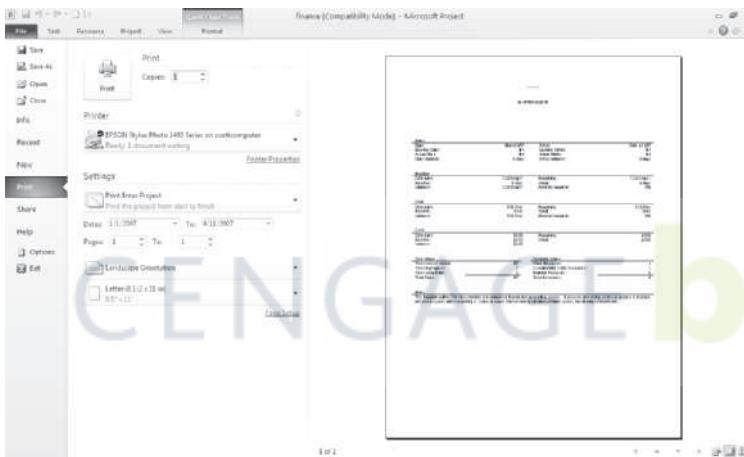

FIGURE A-13 Previewing a report in the Backstage
8. View the *Project Summary* report. Double-click **Overview** from the Reports dialog box, and then double-click **Project Summary** in the Overview Reports dialog box. Notice that Project 2010 switches to the Backstage (File tab) to make it easy for you to print or share your report, as shown in Figure A-13.